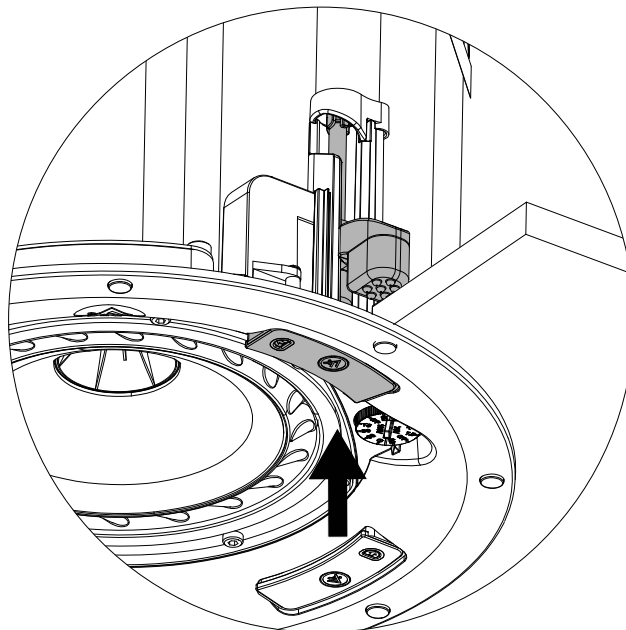

Figure 27
- Push the "T-handle" upwards and align with the locking tab on the handle, placing it back to its default starting position (Figure 27).